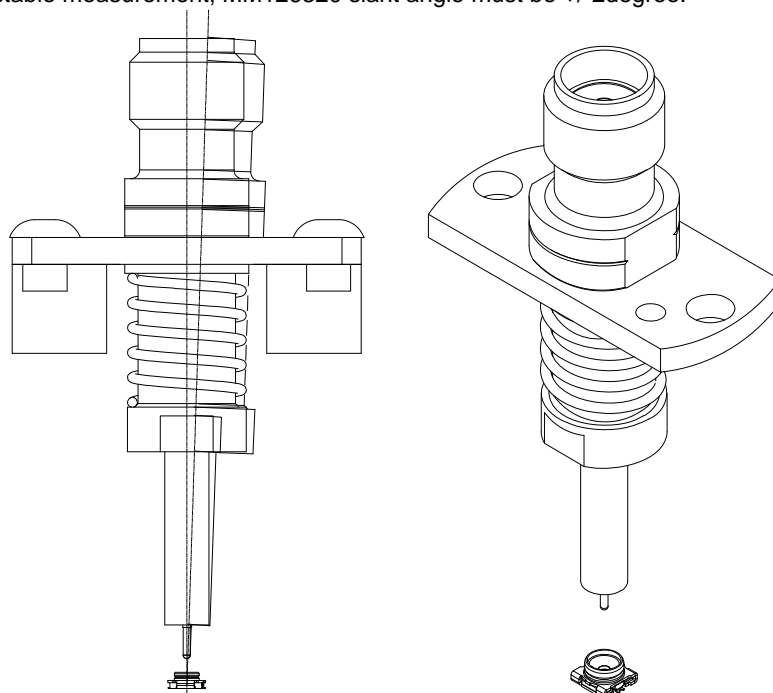

Figure.5 Probe Shape Operation Manual for Auto Measurement probe (MM126320)
3.4 The slant angle tolerance of probe against MM8430-2600B/2610B, MM8130-2600B and MM8030-2600/2610B. (Figure 5)